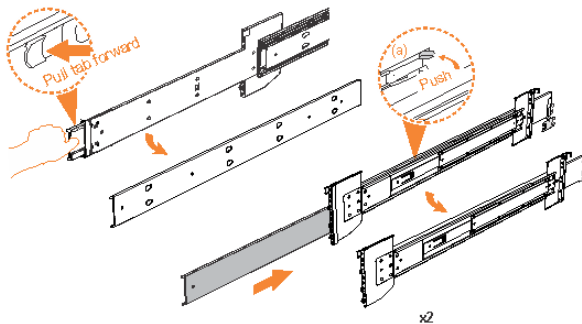

Figure 44. Detaching the inner rail section
3. Remove the inner member of the rail. Push the tab (a) and slide the middle rail member back, as shown in Figure 44 on page 84.